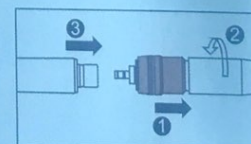

Fig. 2
i) Insert the quick coupler onto the hose and screw the hose nut. (Fig.2)